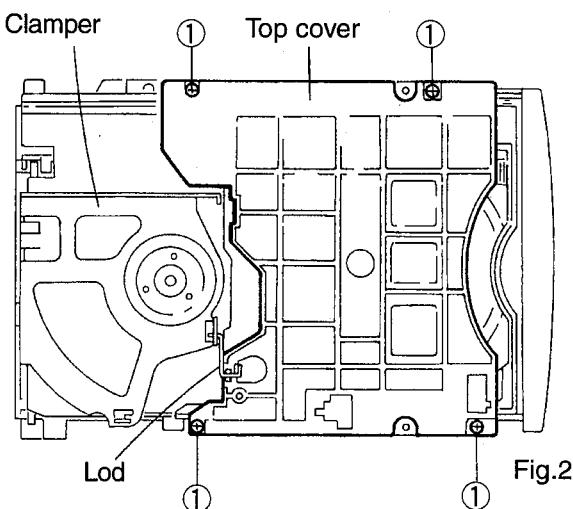

Fig.2
2. Remove the four screws 1 retaining the top cover (See Fig.2).
3. After pulling out the rod from the clamper, remove it together with the top cover (See Figs.2 and 2a).